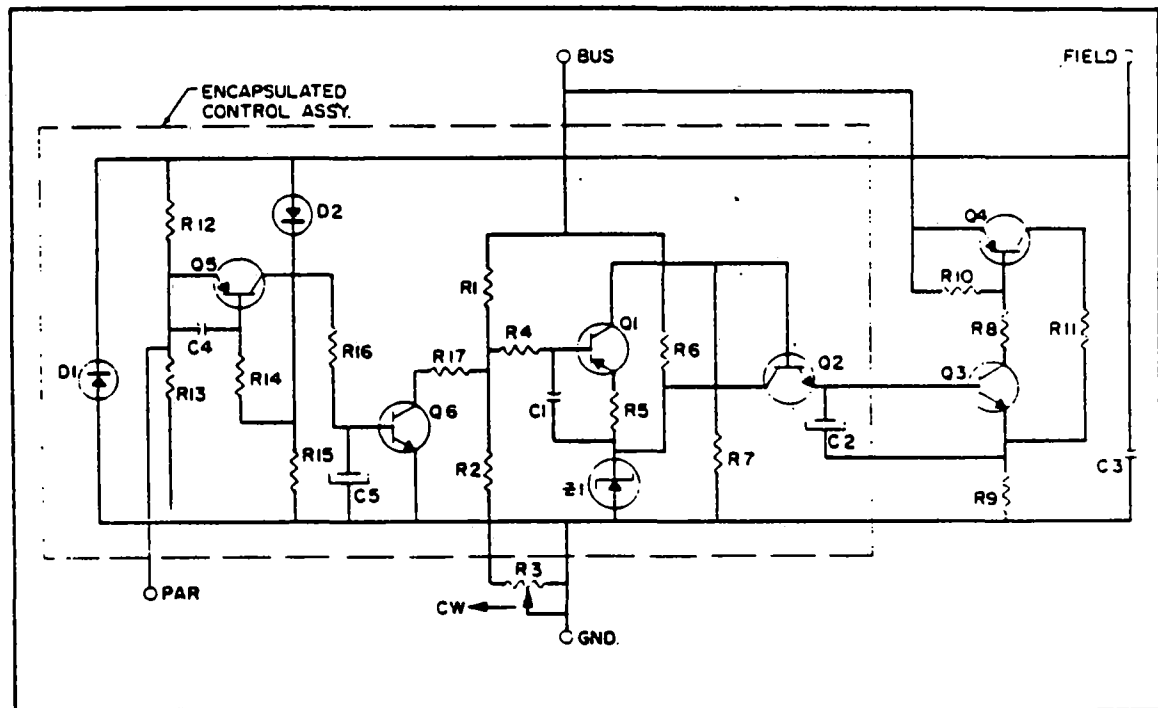

Figure 11-35a. Regulator Diagram (LAMAR)
**11-67a. OPERATION OF REGULATOR (LAMAR). (Refer to Figure 11-35a.)**